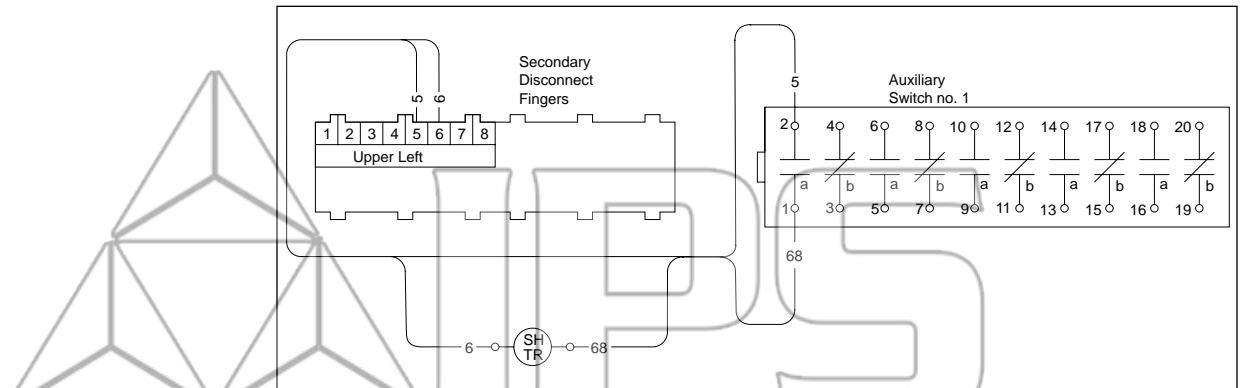

Figure 10: Wiring diagram for circuit breaker (front view of circuit breaker)
- Using the wire provided, wire the shunt trip, auxiliary switch, and moving secondary fingers according to Figure 10.